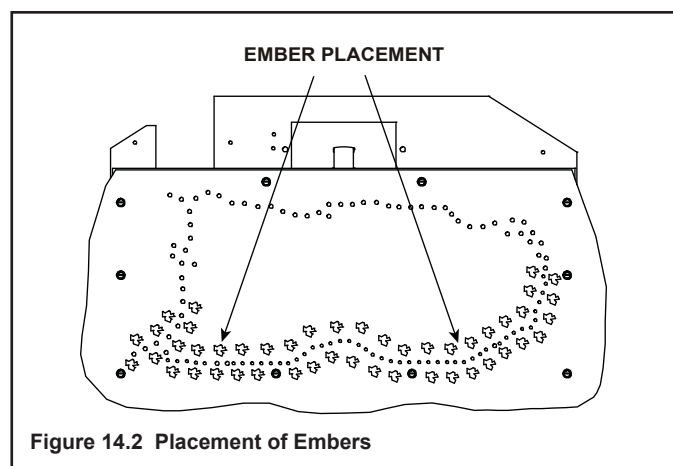

Figure 14.2 Placement of Embers
- When placing Glowing Embers® onto the burner care should be taken so that the ports are not covered. Place the dime-size ember pieces in front and behind of the port trail, but not on or in between the ports (see Figure 14.2). Failure to follow procedure will likely cause lighting and sooting problems.